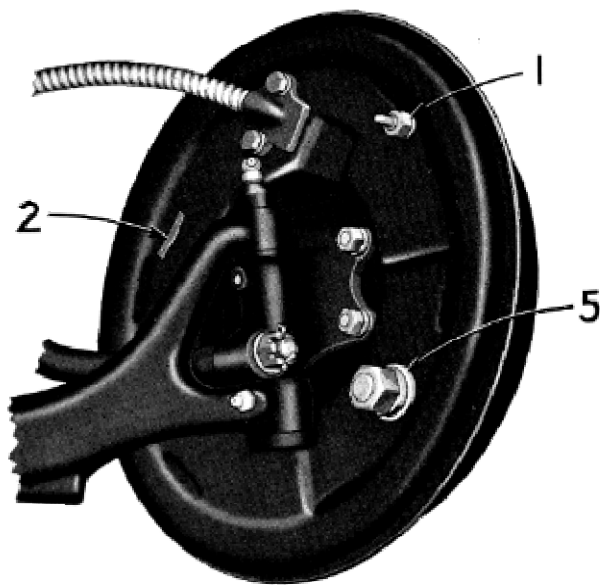
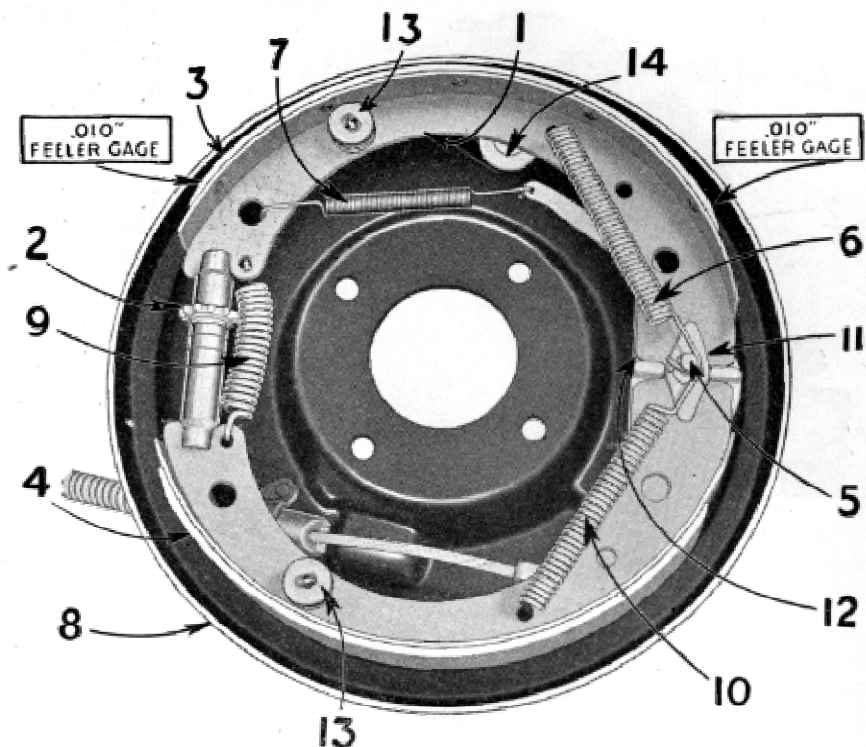

Figure 2—Left Front Brake
Figure 4—Left Rear Brake
*The Eccentric Adjustment*—1-Fig. 2. This adjustment centralizes the brake shoe in the brake drum.
6. Remove adjustment hole covers from brake backing plates (2-Fig. 2) and inspection hole covers from brake drums.
7. *At All Wheels:* Loosen eccentric lock nut (1-Fig. 2) on eccentric adjustment and insert .010" feeler gauge between the lining of top shoe and brake drum (Fig. 4). Turn the eccentric adjustment in the direction of forward wheel revolution until .010" feeler is just snug at anchor and adjusting ends of top shoe. Tighten eccentric lock nut. The clearance at both ends of top shoe should not vary more than .003". Should the variation at both ends be greater than .003" it will be necessary to relocate anchor pin as outlined in Paragraph 17. (In case of clearance variation it is desirable that clearance at anchor end of shoe be less than at adjusting end). (See Paragraph 19 on varying Servo Action.) *Do not adjust anchor pin unless this inspection shows it necessary.*